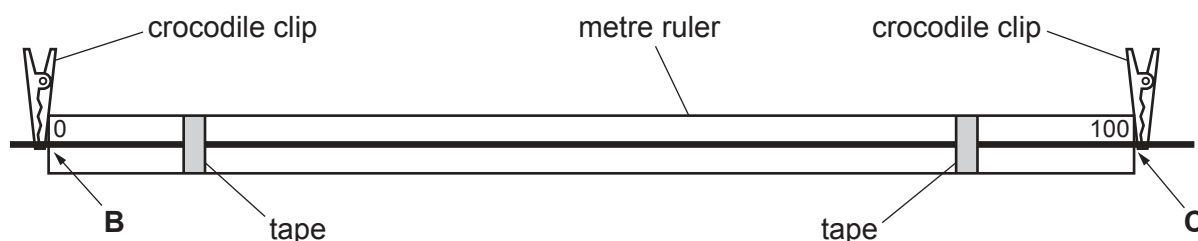

Fig. 2.2
4. The wire must be attached to the metre ruler as shown in Fig. 2.2.